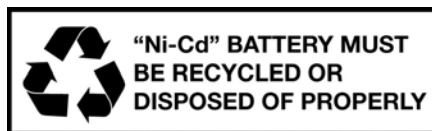

Fig. 6
4. Carefully lift out the battery pack and push on the release tab on the terminal connector before separating the wire terminal connectors. Remove the battery pack from the unit. (Fig. 6)